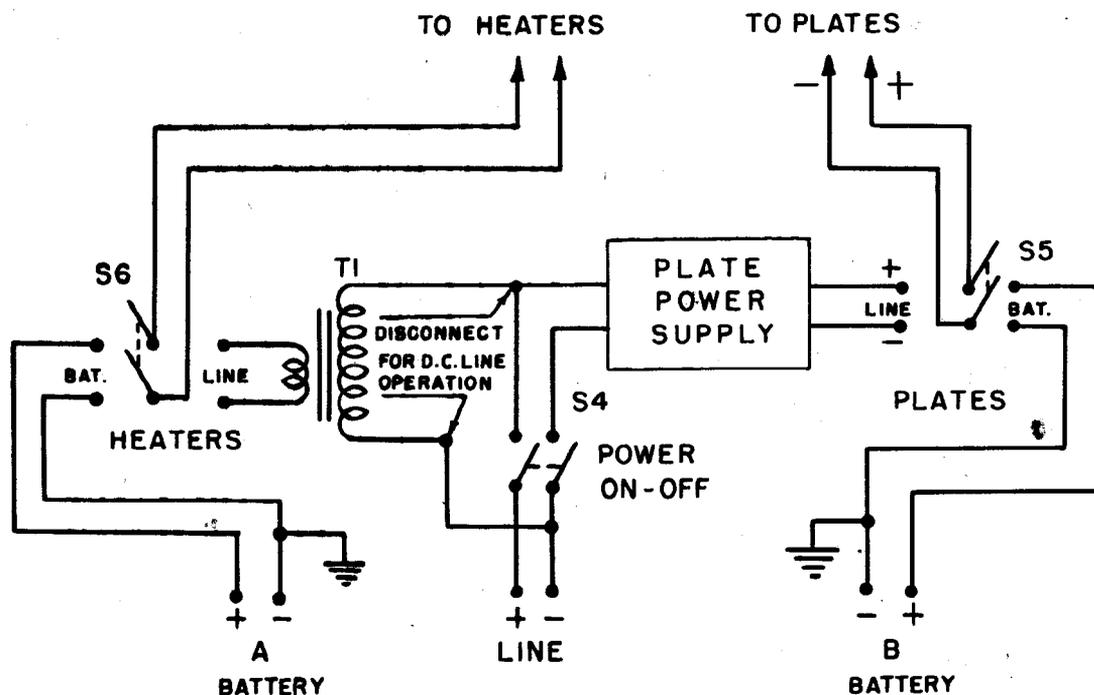

Figure 7—Radio Receiver 128-AY, Simplified Schematic Diagram of Power Switching.
f. Power Switching.—(1) By means of the three toggle switches, (S4), (S5), and (S6), the receiver may be connected for use with one of several combinations of heater and plate voltage supplies. A simplified schematic diagram of the power switching is shown in figure 7. Normally the receiver will be supplied by a-c power and both the PLATES and HTRS switches will be in the LINE position. In this case, only the power switch (S4) will be used to turn the receiver on and off. The switch positions for the other combinations of supply voltages are self-evident from figure 7.
(2) If the receiver is to be used on a d-c line, follow the instructions in paragraph 5 d (2) (b) (1), page 9.